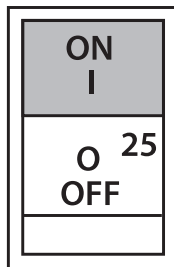

Figure 55. Main Circuit Breaker (ON)
8. Next, place the main circuit breaker, CB1 (Figure 55) in the **ON** position.